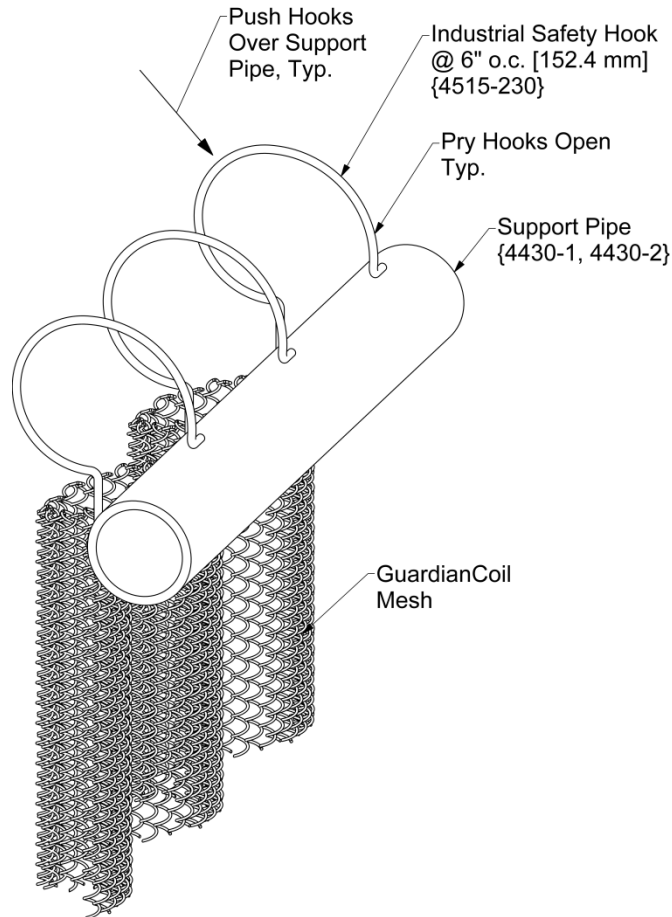

Figure 11
Step 2: Pry the Hooks open wide enough to fit over the Support Pipe Assembly and force them on as shown in Figure 11.